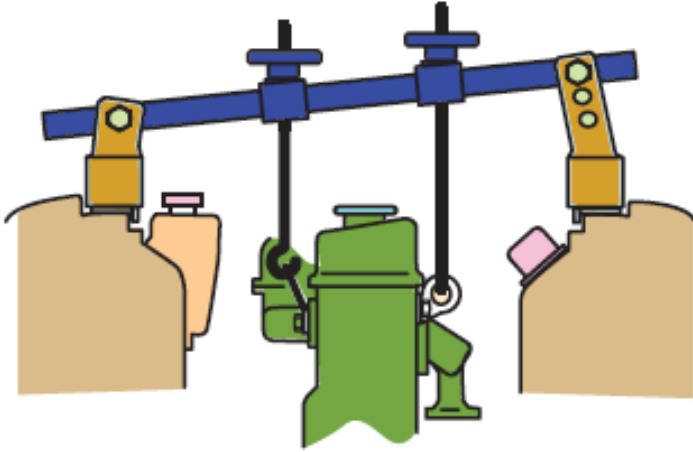

Figure 8. Most front-wheel-drive (FWD) vehicles require the use of a fixture to support the engine before removing the transaxle.
STEP 3 install an engine support tool to keep the engine in the proper location as the transaxle and its mounts are removed. Figure 8.